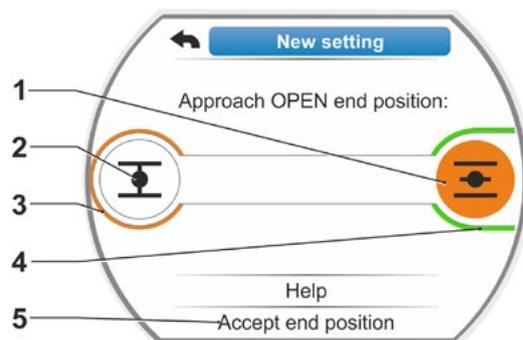

Fig. 6: Approach end position in OPEN direction
Display changes to end position adjustment and you are requested to approach end position OPEN (fig. 6). Operation in OPEN direction is suggested: End position OPEN symbol is shaded in orange (fig. 6, item. 1).
If operation in the opposite direction is desired, turn Drive Controller and set orange selection marked to symbol CLOSED (fig. 6, item 2).
- End position CLOSED = torque-dependent (fig. 6, item 3) and
- End position OPEN = travel-dependent (item 4)